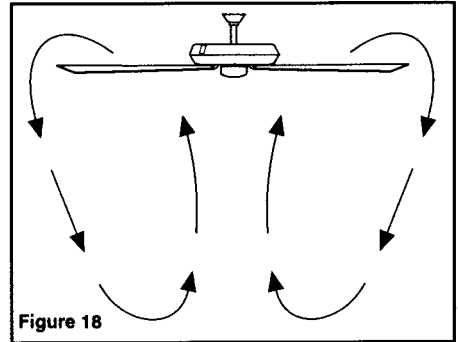

Figure 18
**Cool weather** – (Reverse) An upward airflow moves warm air off the ceiling area as shown in Figure 18. This allows you to set your heating unit on a lower setting without affecting your comfort.